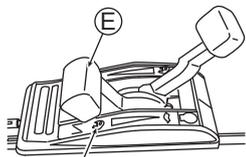

Fig. 15
2. Set Throttle lever (E) to "🐘" to start mowing. (See Fig. 15)